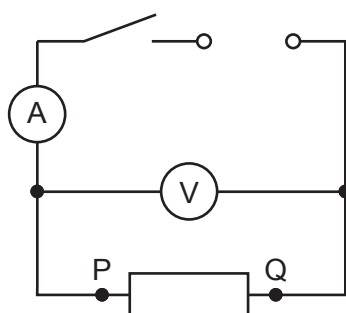

Figure 3.1
(iv) Sufficient connecting leads to set up the circuits shown in Figure 3.1, 3.2 and 3.3.
1. The first circuit is to be set up for candidates as shown in Figure 3.1. The switch should be open.
2. The connector on one of the wires attached to the resistor must be labelled P and the connector on the other wire attached to the resistor must be labelled Q as shown in Figure 3.1.
Connect the circuit as shown in Figure 3.1 and check that the circuit is working and that the circuit is labelled circuit 1.
Check the connector on one of the wires attached to the resistor is labelled P and the connector on the other wire attached to the resistor is labelled Q as shown in Figure 3.1.